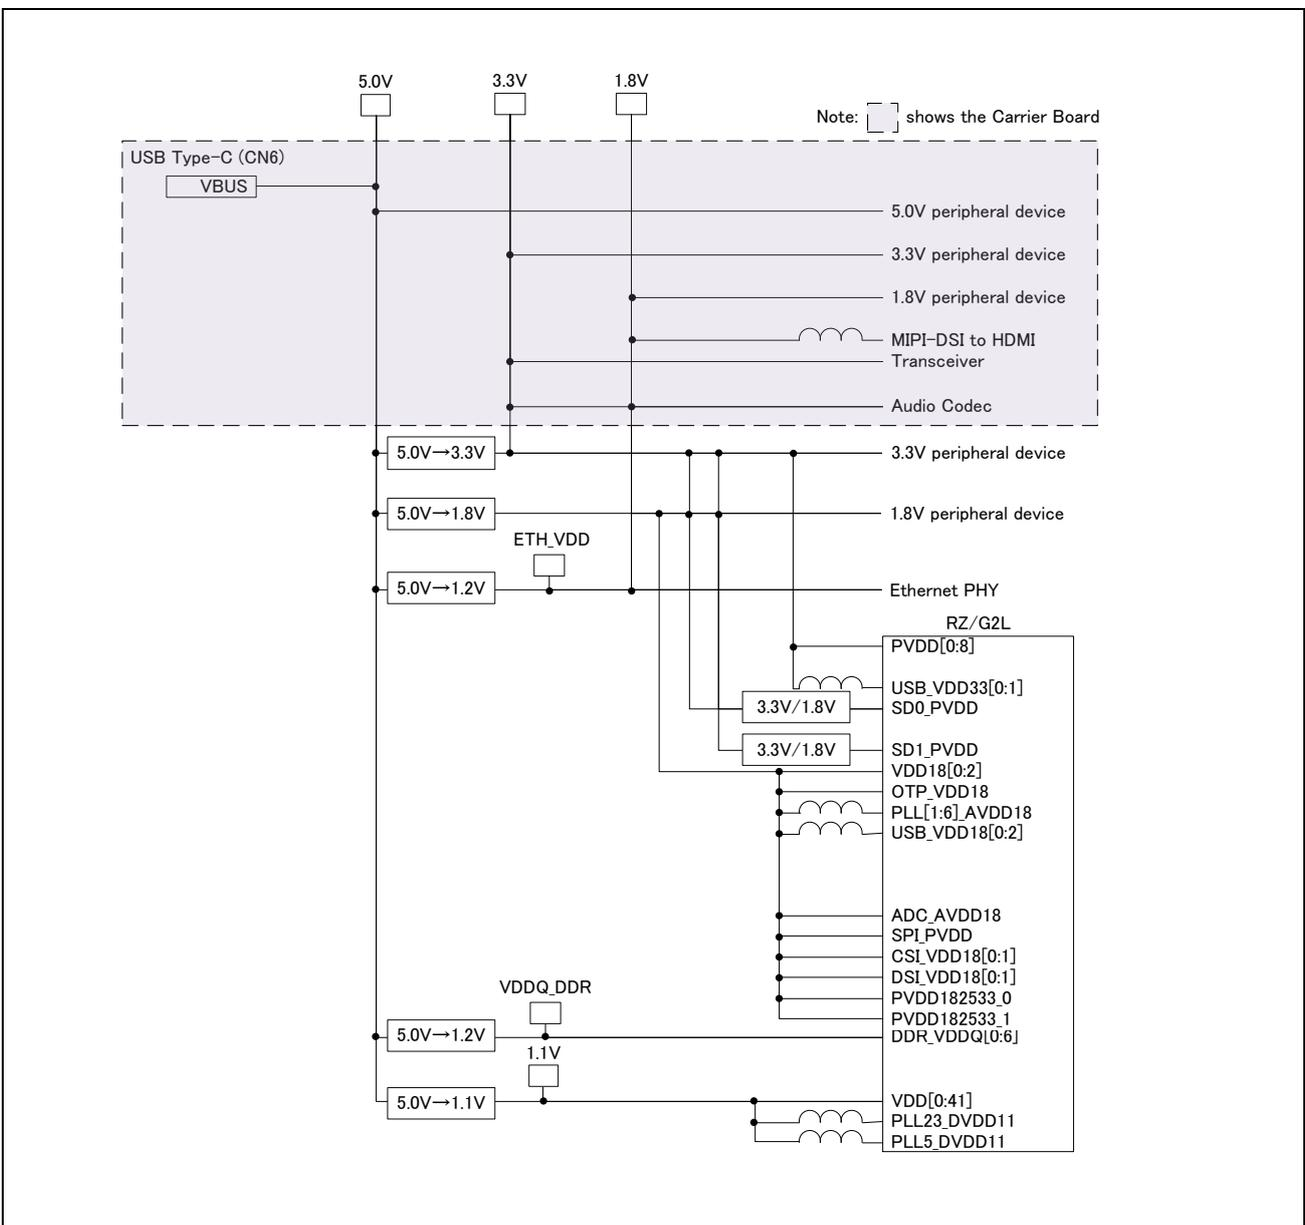

Figure 2.8 Block Diagram of Power Configuration
**Figure 2.8** shows a block diagram of power configuration for the RTK9744L23S01000BE (Evaluation board Kit for RZ/G2L MPU).